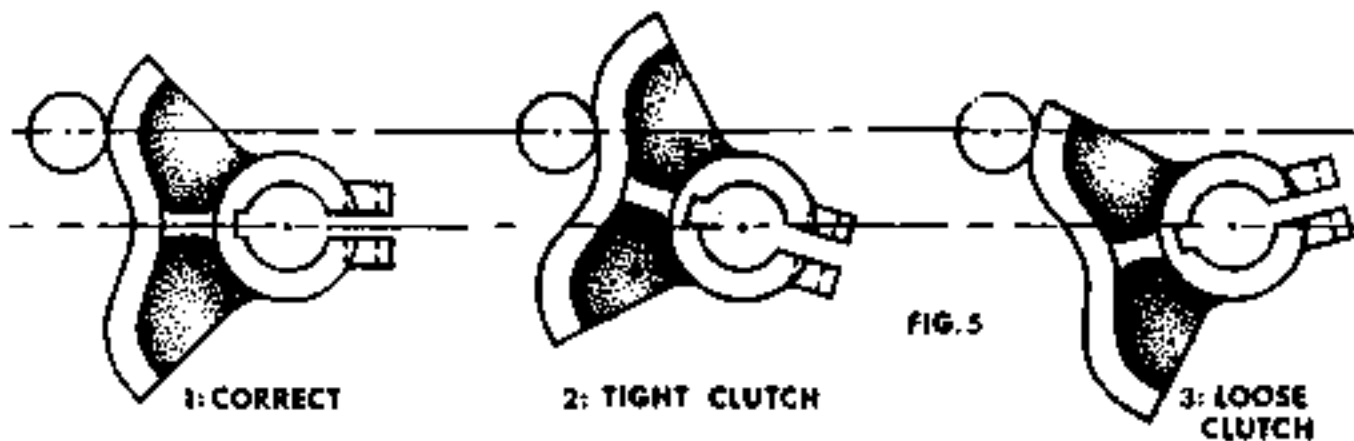
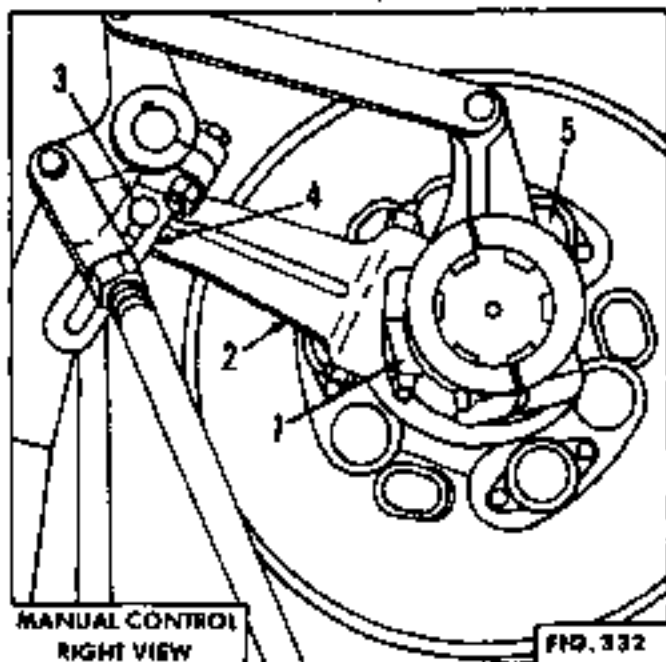
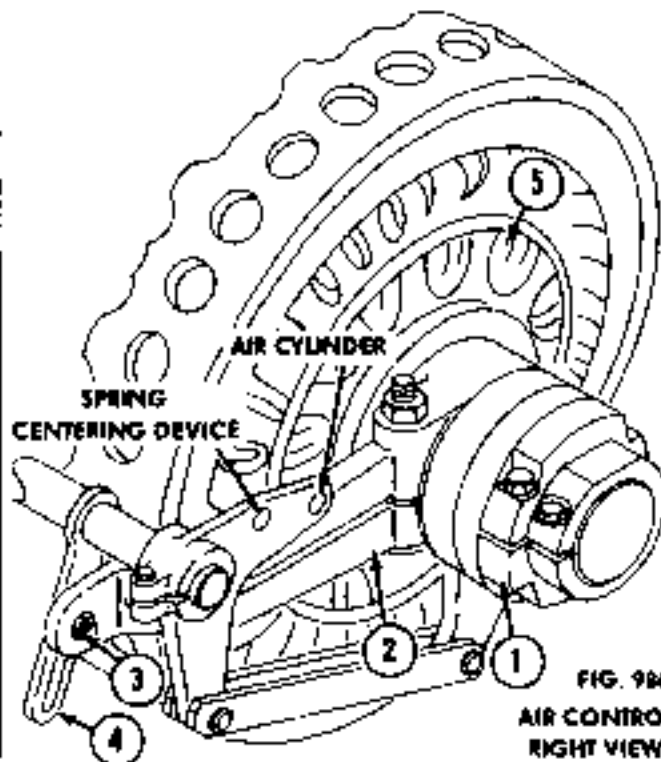

FIG. 5
FIG. 332
FIG. 986
A. To check for clutch wear, engage boom hoist and check roller on brake release cam. See Figure 5 for typical conditions of a fully engaged clutch. To compensate for normal clutch wear, adjustment can be made on slotted link Figure 332, manual control (or Fig. 986, air control), or by tightening nut (1) Figure 332, (or Fig. 986). Either adjustment is permissible, but if nut (1) is used no readjustment of the helical cam levers is necessary.
B. To adjust helical cam levers loosen nut (3) Figure 332, or Fig. 986 slightly. Top stationary helical cam lever (2) to a tighter position on slotted link (4), then tighten nut (3).
C. Return stationary or adjustable cam arm to within 1/2" of full-loose location of slotted link. Adjust nut (1) until position No. 1 Figure 5 is reached. Replace keeper and clamp bolt.
A. Disconnect stationary cam lever (2) Figure 332, or Fig. 986 from slotted adjusting link (4). Remove spring covers and springs (5) from the movable pressure plate. Remove split nut (1).